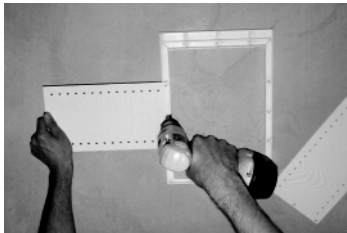

figure 1
Determine where each speaker will need to be installed; the holes in the mounting ring allow the wings/arms to be attached either vertically or horizontally for installations requiring different wing/arm configurations. Attach extension wing/arm onto mounting ring using three (3) 1/4" screws (see figure 1) for each wing/arm, being careful not to over tighten screws. For proper installation, screws must go through the wing/arm and into matching holes in mounting ring. When using under normal conditions, each assembly should look like the assembly in figure 4.